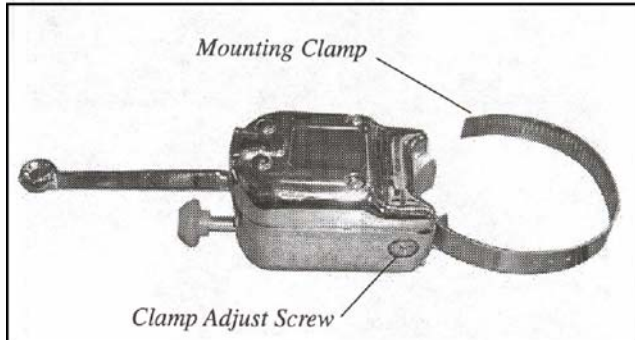
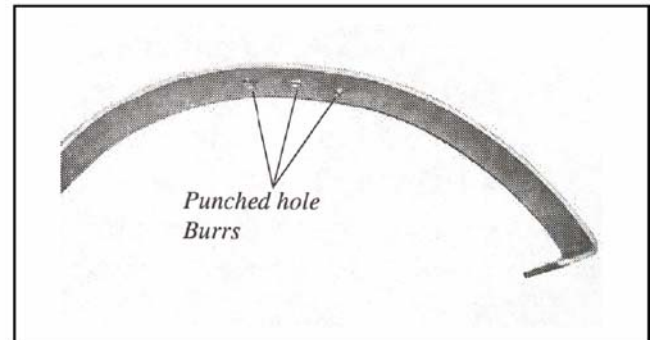

Figure 4-240
Figure 4-241
4. Install the turn signal switch assembly on the steering column. A flat metal strap, that is part of the switch assembly, is used to clamp the switch assembly to the steering column (Figure 4-240). Remove the clamp from the switch assembly and use a punch to pierce the clamp in three or four places near the center of the clamp (Figure 4-241). The punch must pierce a hole completely through the strap, leaving a sharp burr on the back side of the strap. The strap must be grounded to the steering column. The sharp burrs will pierce the paint on the steering column when the strap is tightened, providing a good ground connection.